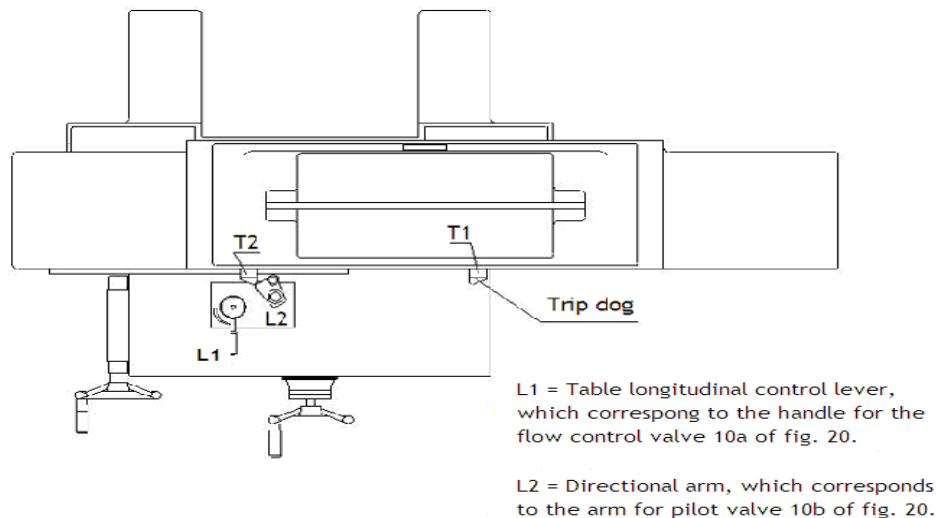

Fig. 3 Table Dogs
- (A) the table with saddle, and
- (B) the saddle with machine bases.
2. Turn the table longitudinal control lever L1 to its valve closing position (Fig.3). Note: L1 correspond to the handle for flow control valve 10a of Fig.20.
3. Turn the directional arm L2 to its neutral position (L2 in Fig.3), correspond to the arm for pilot valve 10b of Fig.20.
4. Table dogs T1, T2 (Fig.3) must be well fixed at its proper position (not exceed its maximum stroke) in table slot.
- 7.6.3 Take off arm L2 from its shaft L3 (Fig.5d) and turn L3 to a position with its marked line in a perpendicular direction as shown in Fig.5b. then re-put L2 on L3 in its correct position (as Fig.3)